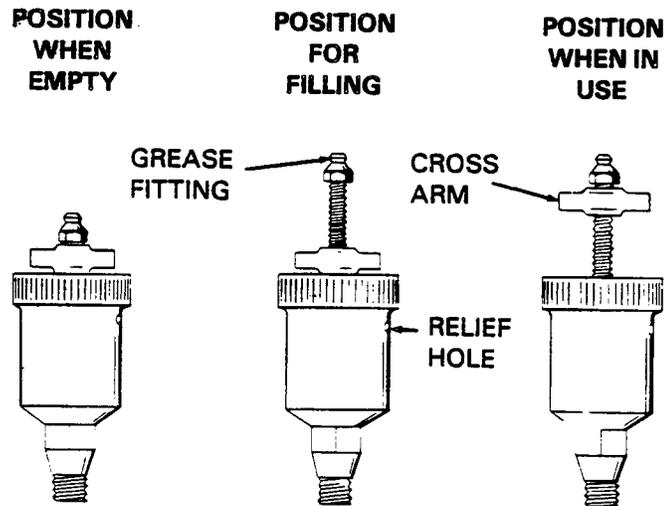

Figure 5. Automatic Lubricating Grease Cup
Fill the grease cup (17) through the grease fitting with No. 2 lithium base grease until grease escapes from the relief hole. Turn the grease cup arm counterclockwise until it is at the top of the stem; this will release the spring to apply grease to the seal (see Figure 5).